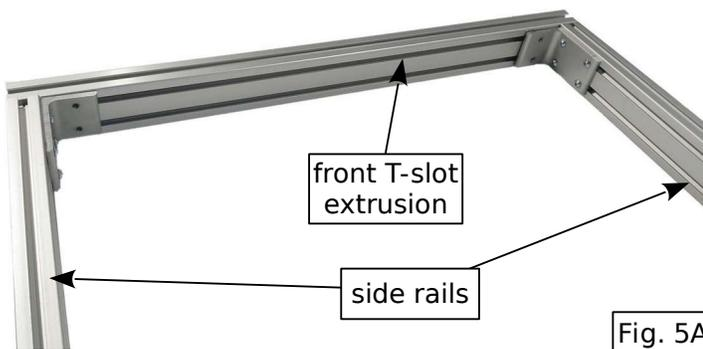
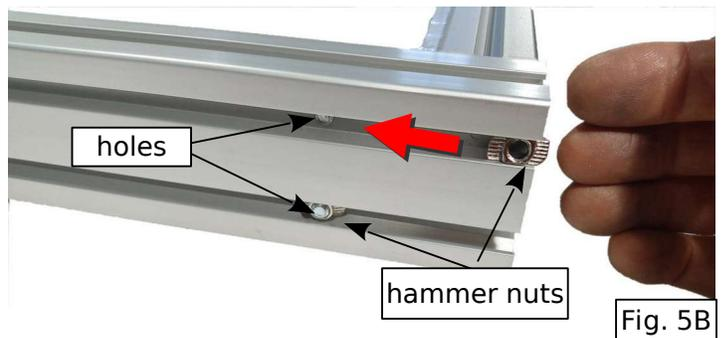
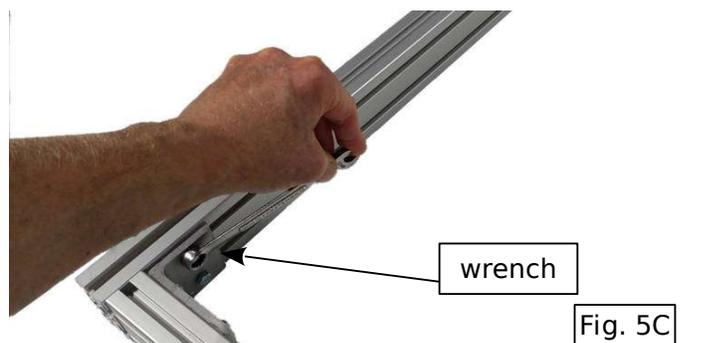

Fig. 5A
Fig. 5B
Fig. 5C
5. Lay out the trailer sides and front T-slot extrusion as shown in Fig. 5A below. Slide a hammer nut over each hole in the front extrusion on the side **opposite** the corner bracket (Fig 5B, right). Insert four M6 x 35 mm hex head screws through the holes on the corner brackets and front extrusion and thread them into the hammer nuts. Tighten with a 10 mm wrench (Fig. 5C).